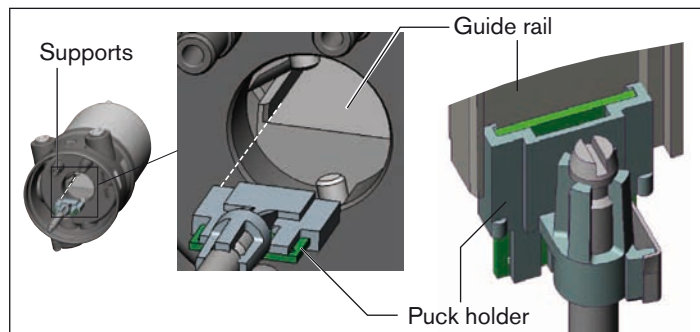

Fig. 5: Aligning the puck holder
1. the puck holder can be inserted into the guide rail of the positioner (see "Fig. 5") and